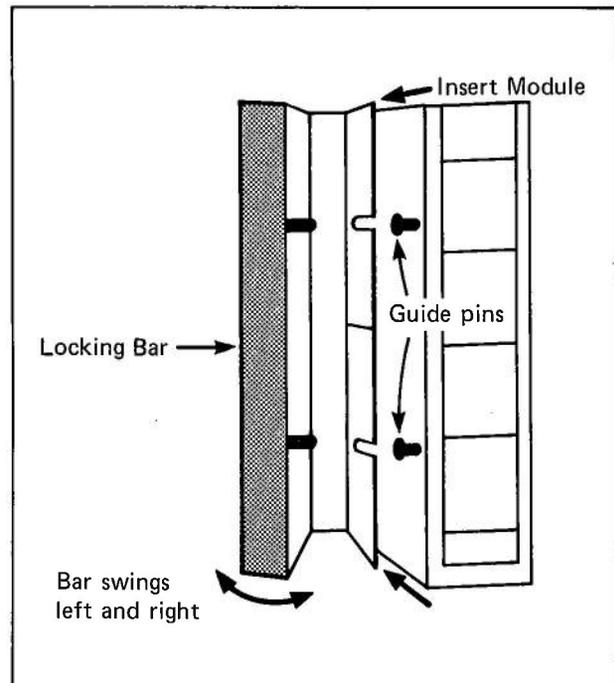

Figure 6 - Guide Slots
Step 7 - Move the Locking Bar on the I/O Rack's built-in terminal block to the left in order to uncover the guide slots on the block. (See Figure 6.)